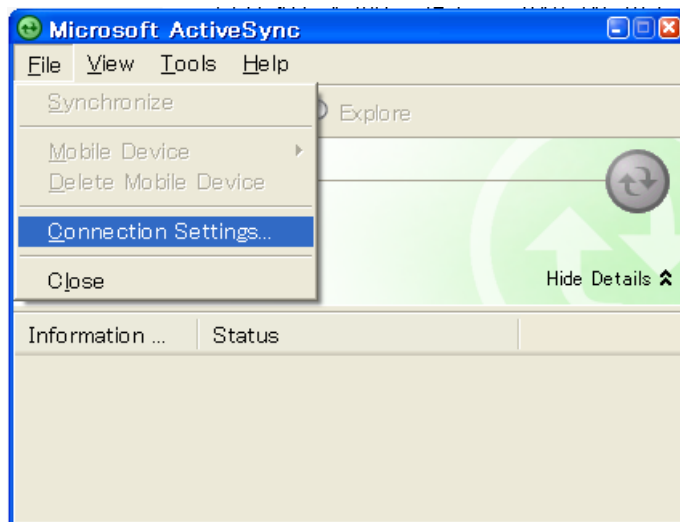

Figure 5.35
1. Navigate to **File** → **Connection Settings....** from the menu in ActiveSync. See Figure 5.35.